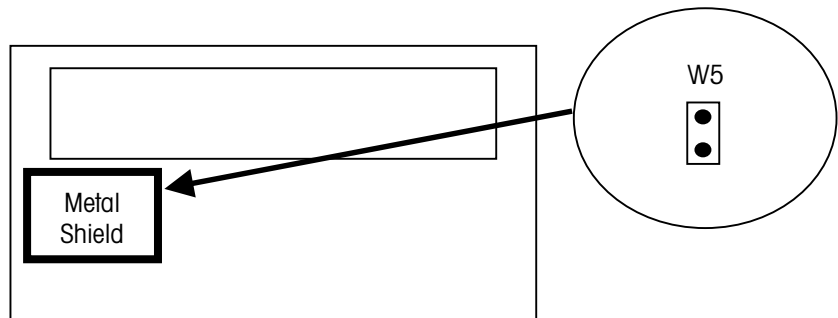

Figure 2-f
2. On the Main PCB, remove the metal top to the shield can covering the analog circuitry and the W5 jumper by prying it up gently from the base. THE BASE OF THE CAN DOES NOT COME OFF THE PCB – ONLY THE TOP OF THE CAN IS TO BE REMOVED. Refer to Figure 2-f for the position of the metal shield can.